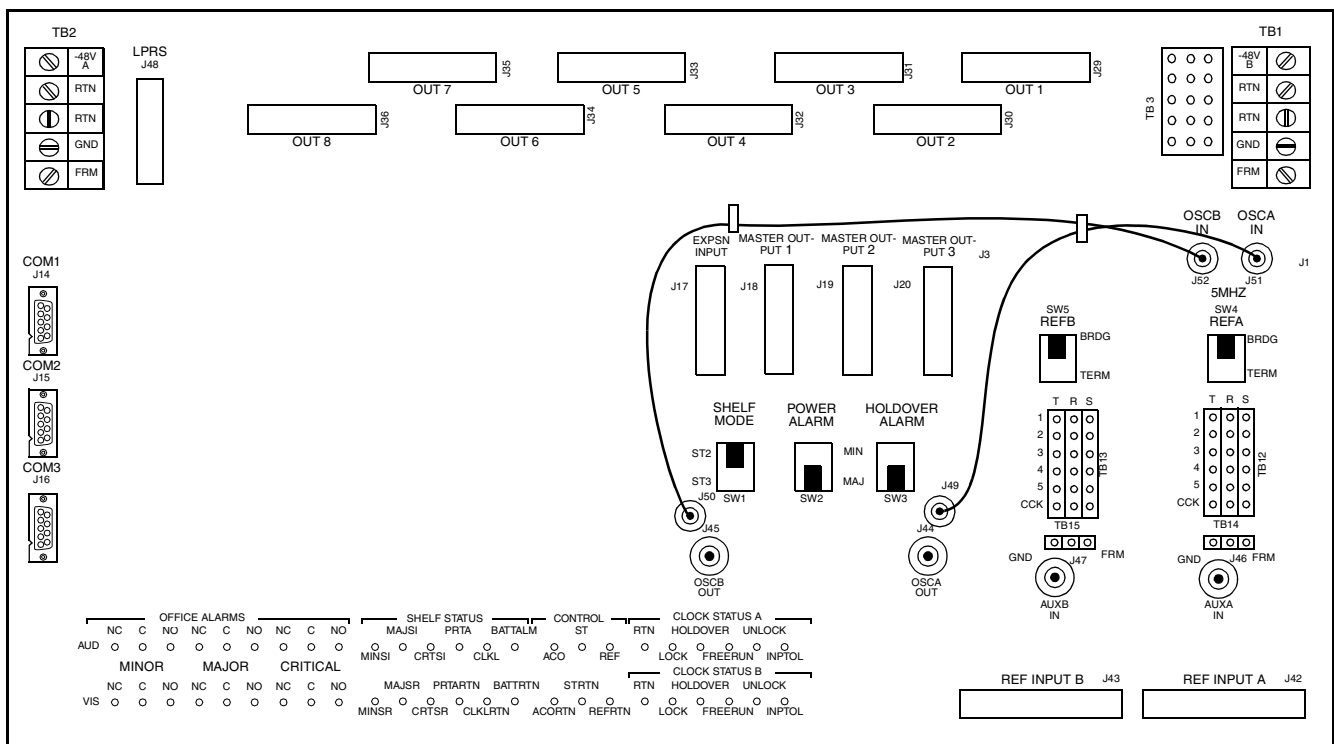

Figure 6. Shelf (Rear View)
2.11 Consult the local company Installation Job Specifications to set switches SW1 through SW5 (Figure 6) on the master shelf rear panel.
- Using Figure 6 and Table A as reference, set switches SW1 through SW7 on the rear panel of the master shelf assembly per local company Installation Job Specifications.